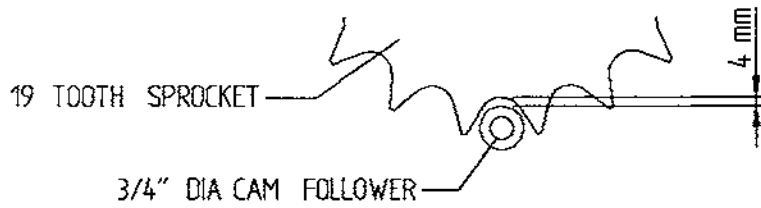

FIG 4
- (i) That the gap between the sprocket and cam follower is 4mm (fig 4.). To adjust this remove shims under the quadrant assembly.